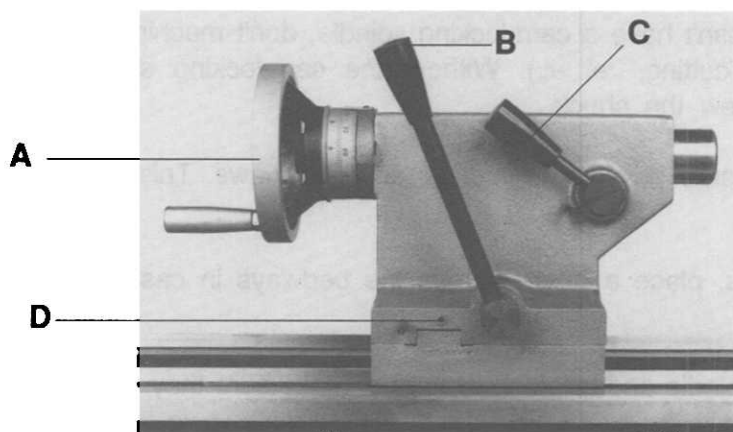

Figure 12
1. "A" in Figure 12 is the *tailstock handwheel*. Turning it clockwise moves the quill out; turning it counterclockwise moves it in. The graduated sleeve is adjustable for calibration.
3. "C" in Figure 12 is the *quill locking lever*. It operates in the same way as the tailstock locking lever.